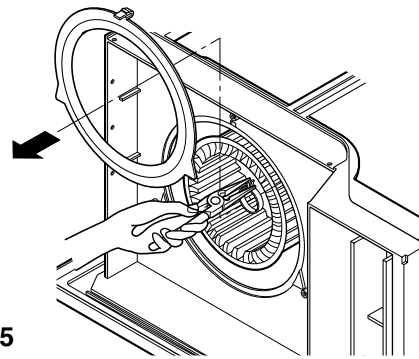

Figure 5
5. Remove the clamp spring which is clamped to the boss of blower by hand plier. (See Fig. 5)